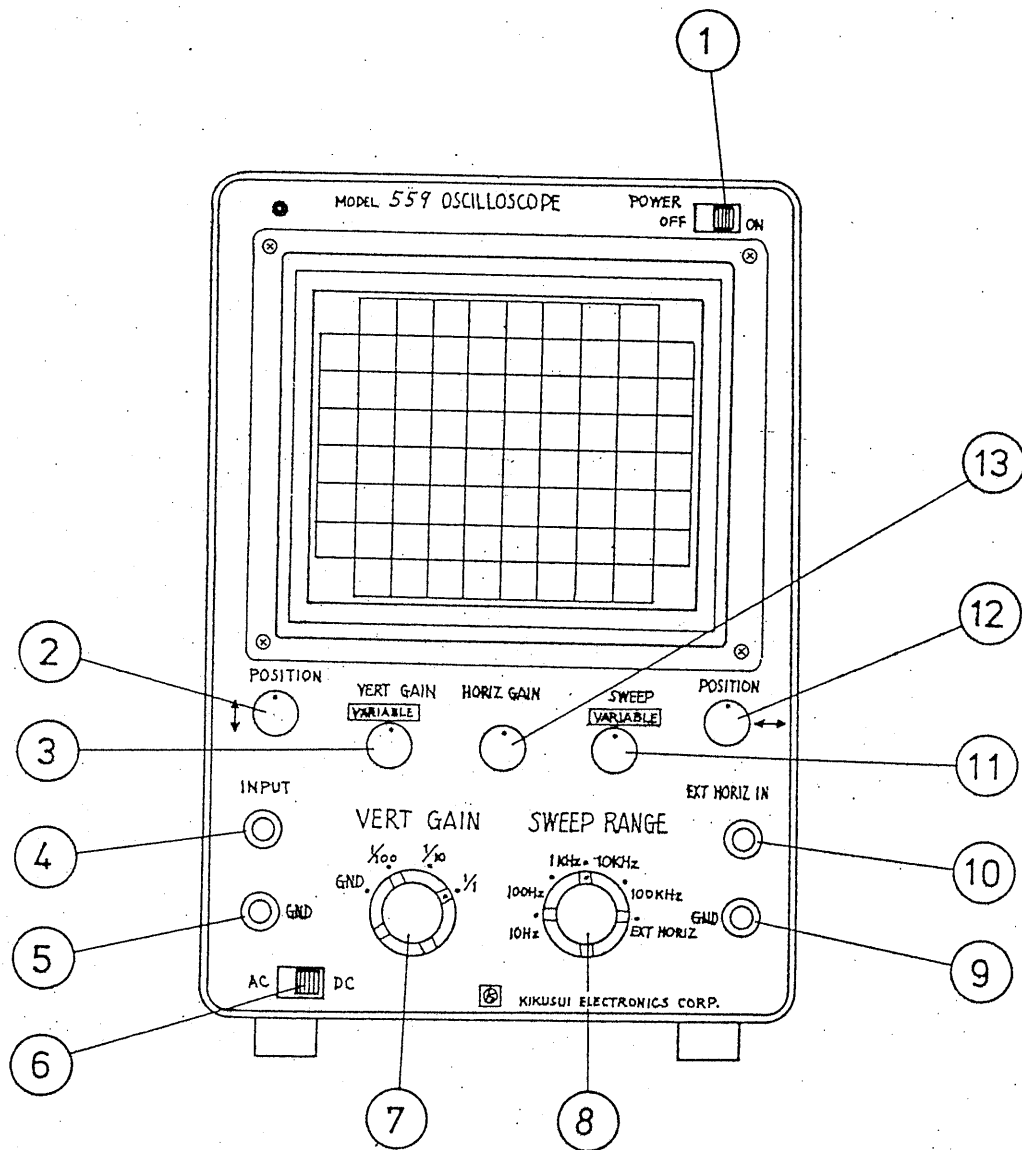

Fig. 1
3. EXPLANATION OF PANEL (Fig. 1 and 2)
4-1 First Operation (Refer to Fig. 1)